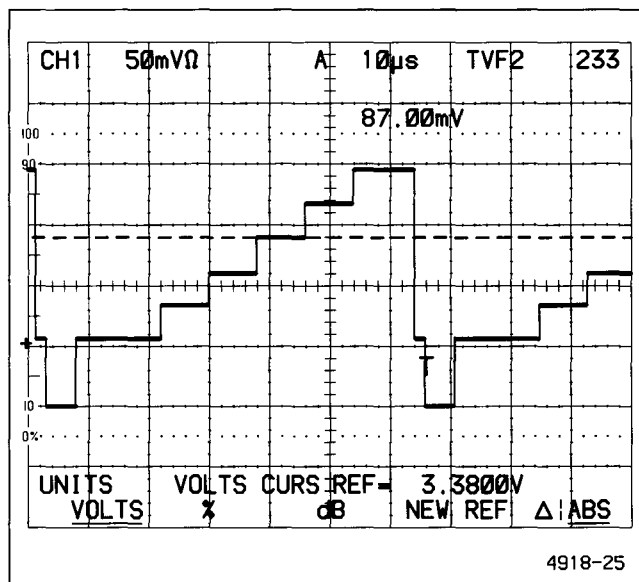

Figure 6-11. Voltage measurement of a step on a stair-case signal using the VOLTS cursor function in the ABS mode.
- Read the voltage level of the waveform (at the cursor) with respect to ground from the cursor readout (see Figure 6-11).